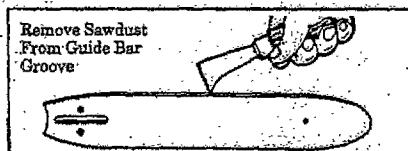

Figure 35
- c. Remove sawdust from the guide bar groove periodically with a putty knife or a wire. Figure 35.